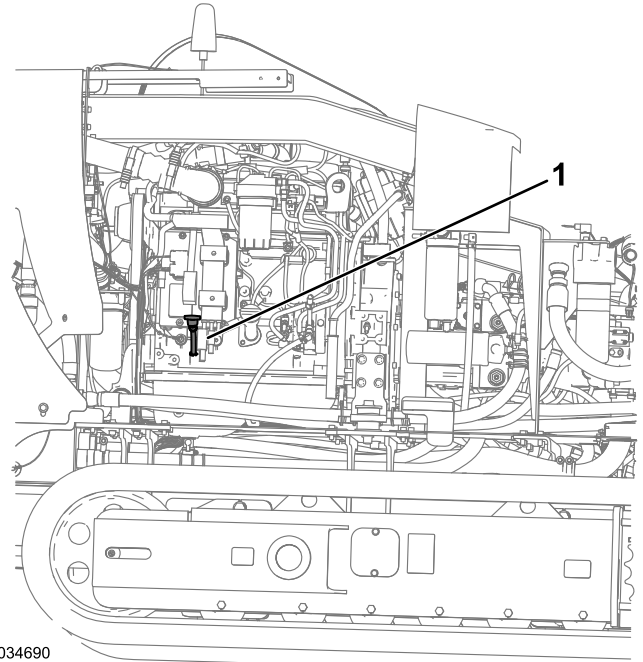

Figure 91
3. Remove the dipstick (Figure 91), and wipe it clean.